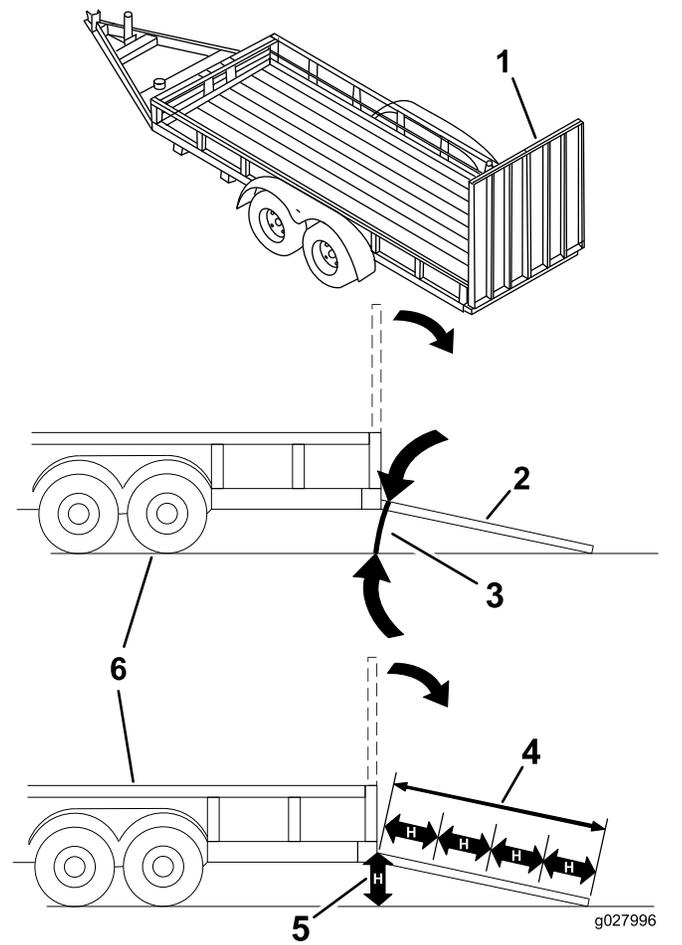

Figure 42
Loading a machine onto a trailer or truck increases the possibility of tip-over and could cause serious injury or death (Figure 42).
3. Lower the ramp, ensuring that the angle between the ramp and the ground does not exceed 15 degrees (Figure 42).
1. Lower the ramp, ensuring that the angle between the ramp and the ground does not exceed 15 degrees (Figure 42).